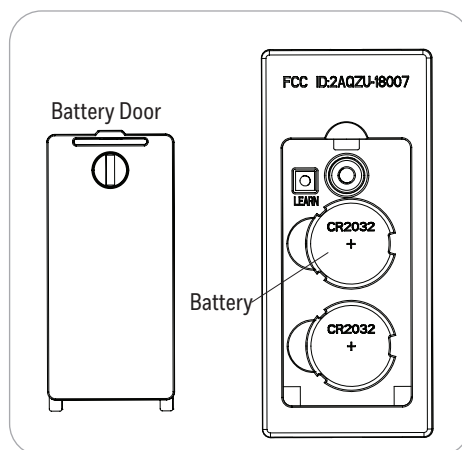

Figure 6.8
8. Remove the battery door from the back of the remote using a flat-head screwdriver (not included). Insert the two CR2032 batteries into the remote; ensure the positive pole of the batteries face up (as pictured) and then replace the battery door. Press the HIGH SPEED button to ensure the LED indicator illuminates and the fan turns on (Figure 6.8).